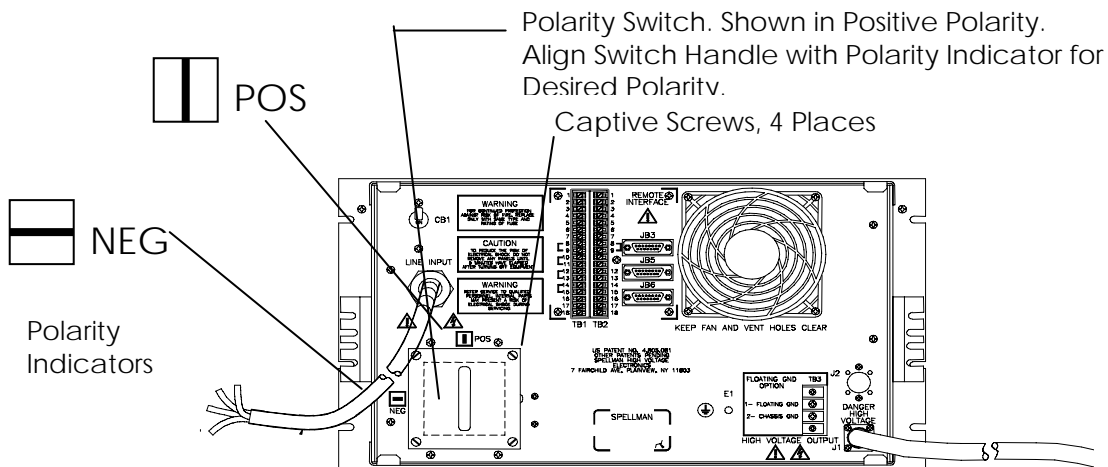

Figure 5.7 Rear Panel Polarity Reversal Switch
Rear panel reversible systems utilize a high voltage switch located on the Inverter chassis rear panel as shown in Figure 5.7.
2. Loosen the (4) captive screws securing the high voltage switch to the SR rear panel. (See Figure 5.7)
The alignment of the switch handle with the silk-screen symbols provided on the rear panel indicates the selected polarity. (See Figure 5.7)